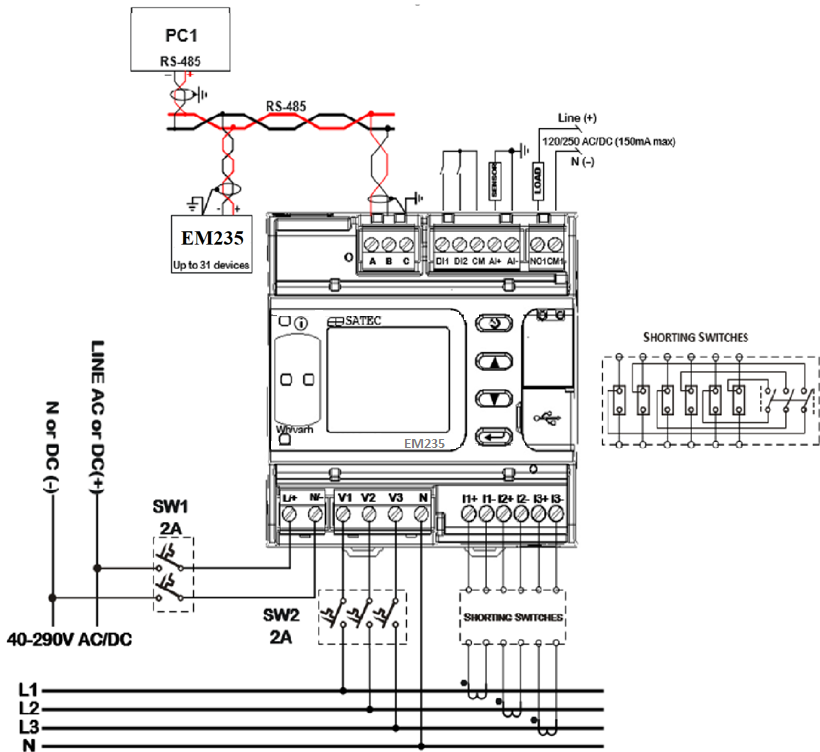

Figure 3: Typical wye installation
The following steps (Figure 3) correspond with a low-voltage three phase network:
4. Standard external current transformers: connect the CT's (14 AWG minimum) "+" pole to the device's **I1+** current input (unit's bottom right of front panel, as in figure 3) and the "-" pole to the adjacent **I1-** current input. Repeat this for the following two phases, **I2** and **I3**. Verify proper polarity in your connections in accordance with the arrow printed on the external CTs.